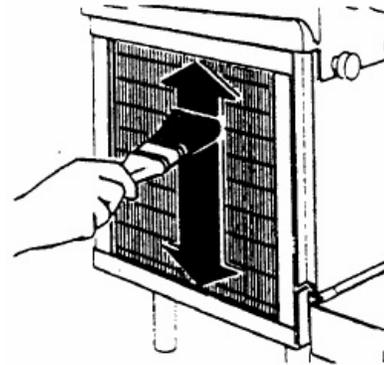

FIGURE 33
6. Clean the condenser with a brush, if necessary (FIGURE 33).